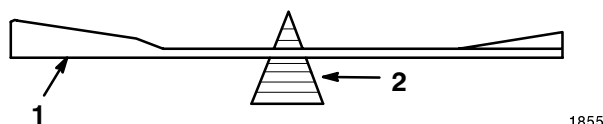

Figure 35
2. Check the balance of the blade by putting it on a blade balancer (Fig. 35). If the blade stays in a horizontal position, the blade is balanced and can be used. If the blade is not balanced, file some metal off the back side of the blade. Repeat this procedure until the blade is balanced.